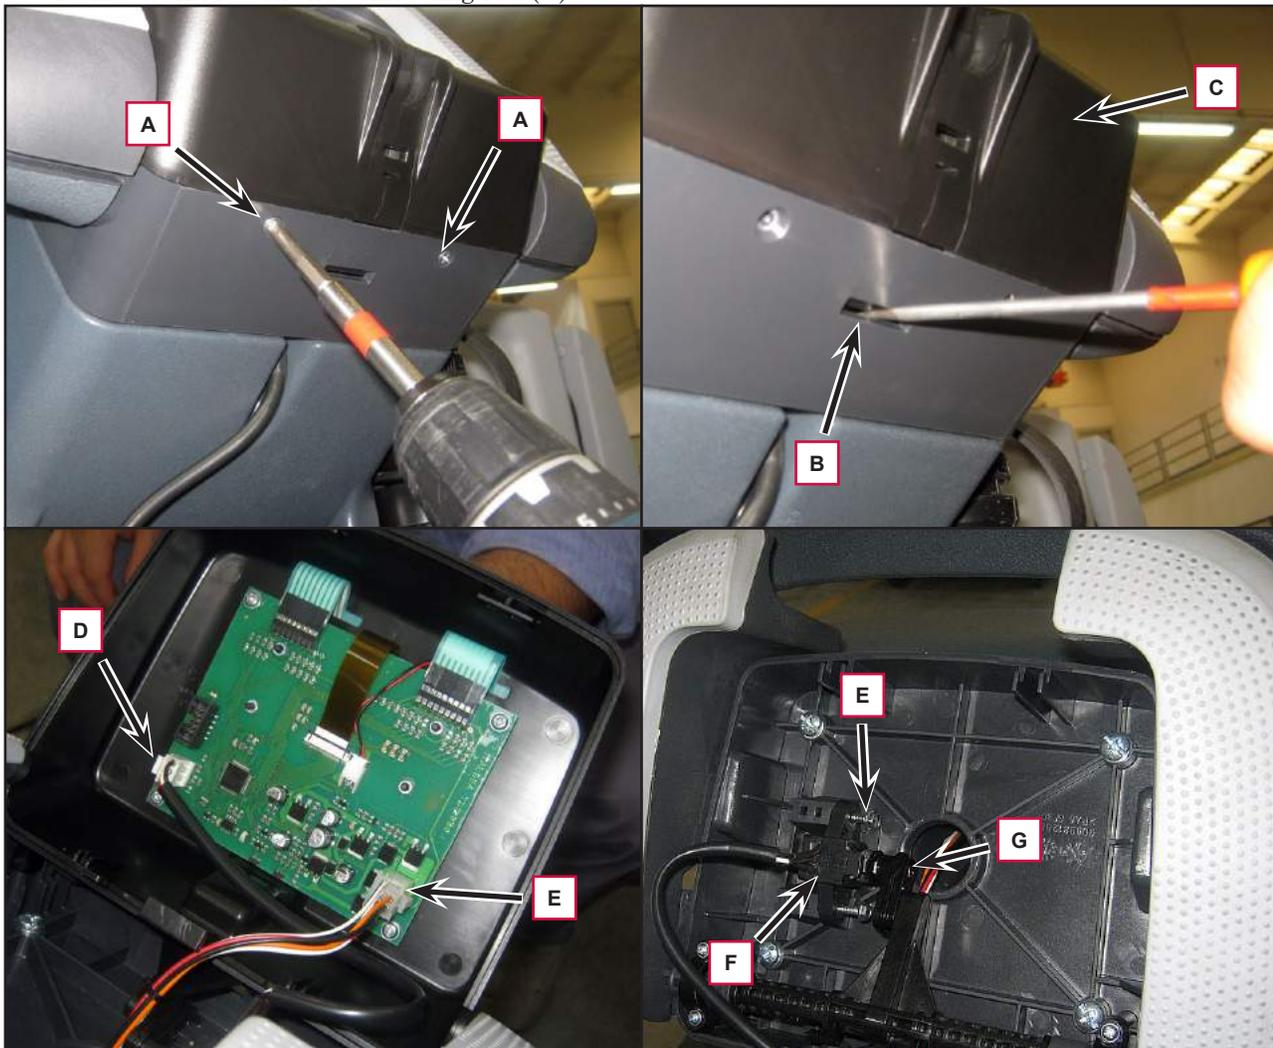

Figure 4
4. Unscrew the 2 screws (A) (Figure 4).
5. Release the retaining tab (B), then lift up and remove the dashboard cover (C).
- (D) Speed potentiometer connection (J4).
- (E) Display board power supply connection (J1).
7. Unscrew the two hex screws (E), then remove the potentiometer (F).
8. Remove and retain the connecting rod (G).